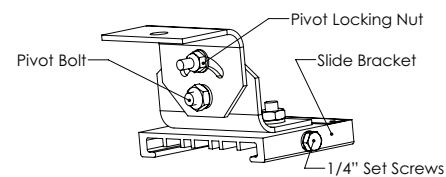

Figure 4. Swivel Mount Detail
5. Tighten the two (2) 1/4" set screws on each slide bracket until they bottom (see Figure 4). Torque to 78 in.-lbs. (8.8 N-m).
6. Adjust the position of the luminaire to the desired angle and tighten the two (2) 5/16" pivot bolts. Torque to 138 in.-lbs. (15.6 N-m).
7. Tighten the two (2) 1/4" pivot locking nuts at the adjustment slots to 78 in.-lbs. (8.8 N-m).